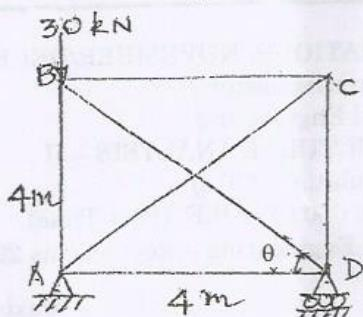

Fig. Q. 11 (a)
11. a) Analyze the pin-jointed plane frame shown in Fig. Q. 11 (a) by flexibility matrix method. The flexibility for each member is 0.02 mm/kN.